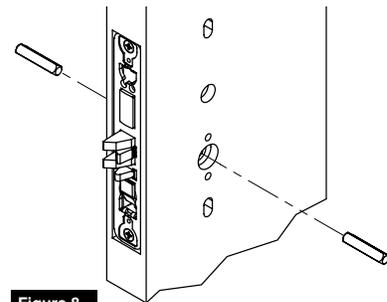

Figure 8
4. Push in latch while holding screwdriver behind latch tail. (Figure 8)
3. Install spindles. (Figure 8)